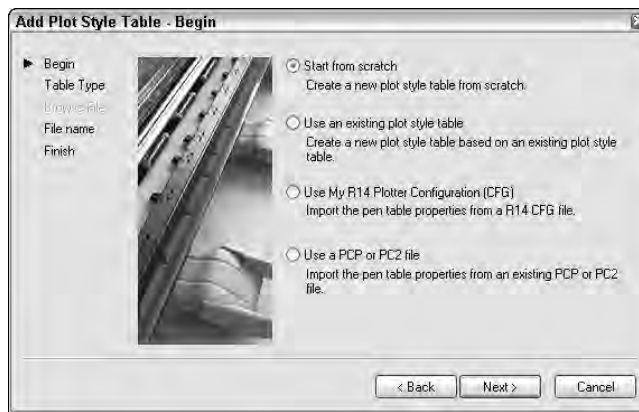

Figure 17-16: In the Begin screen of the Add Plot Style Table Wizard, choose the source you want to use for the new plot style table.
2. On the Begin screen, shown in Figure 17-16, choose the source you want to use for the plot style table. You can start from scratch or use an existing plot style table. Choose Use My R14 Plotter Configuration (CFG) to use the pen assignments from the `acadrl4.cfg` file. If you have a PCP (Release 12/13) or PC2 (Release 14) configuration file, you can use it to import the settings from that file into the plot style table. Then click Next.